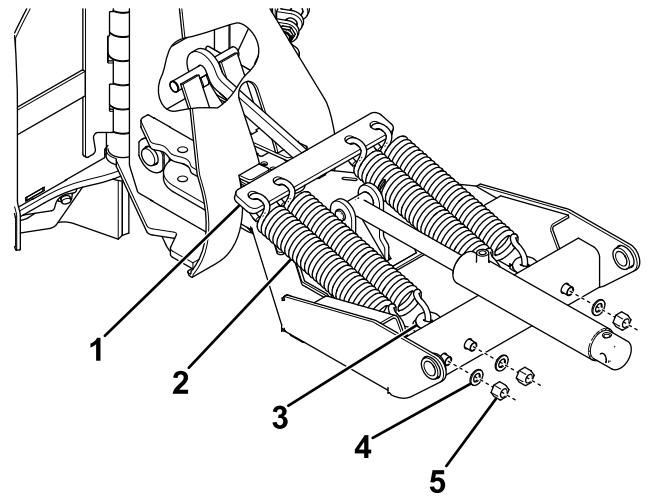

**Figure 7**
- Secure the rod end of the lift cylinder to the push-frame assembly using a clevis pin (5/8 inch) and hairpin cotter (Figure 7).